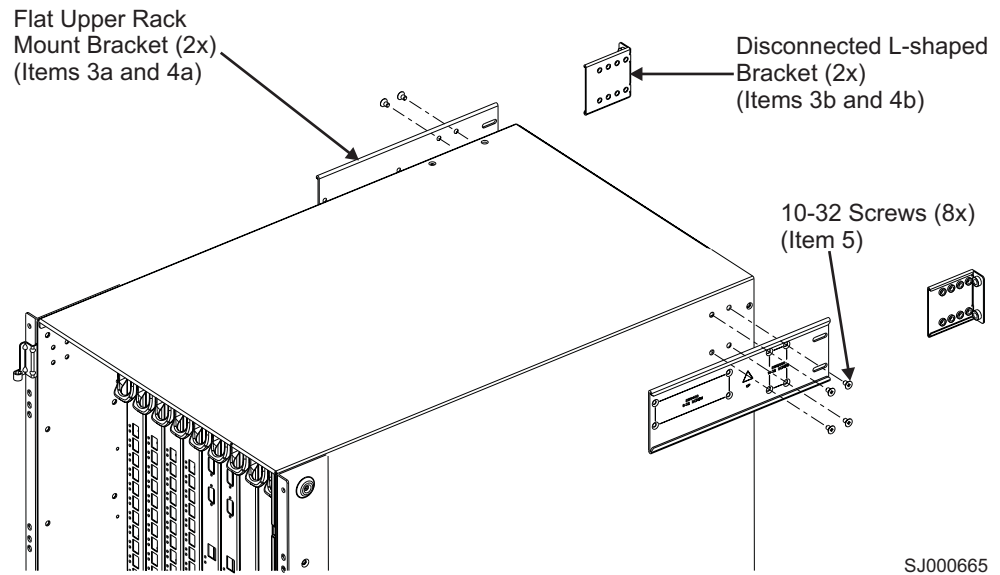

Figure 26. Attaching the right and left flat upper mount brackets to the chassis
6. **Attention:** When you insert screws into the chassis, use the exact screws specified in the procedure. Use of longer screws might damage the chassis. Attach the right and left flat upper mount brackets (see Figure 26 on page 39, items 3a and 4a) to the chassis by using four of the 10-32 x 5/16-in. Phillips-flathead screws (item 5) per bracket. Tighten the screws. Orient the slotted holes in the brackets towards the blower side of the chassis. See Figure 26 on page 39 for orientation.